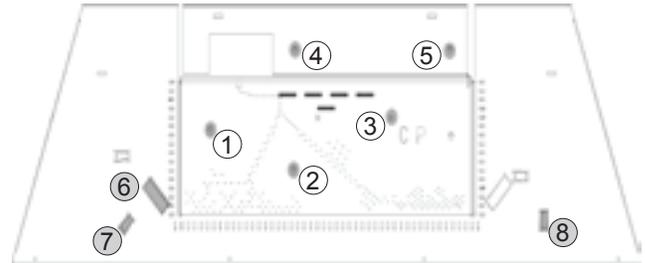

Figure 3
STEP 1. Push up pins 6, 7 and 8 as shown in **Figure 3**. Replace burner cover inside fireplace.